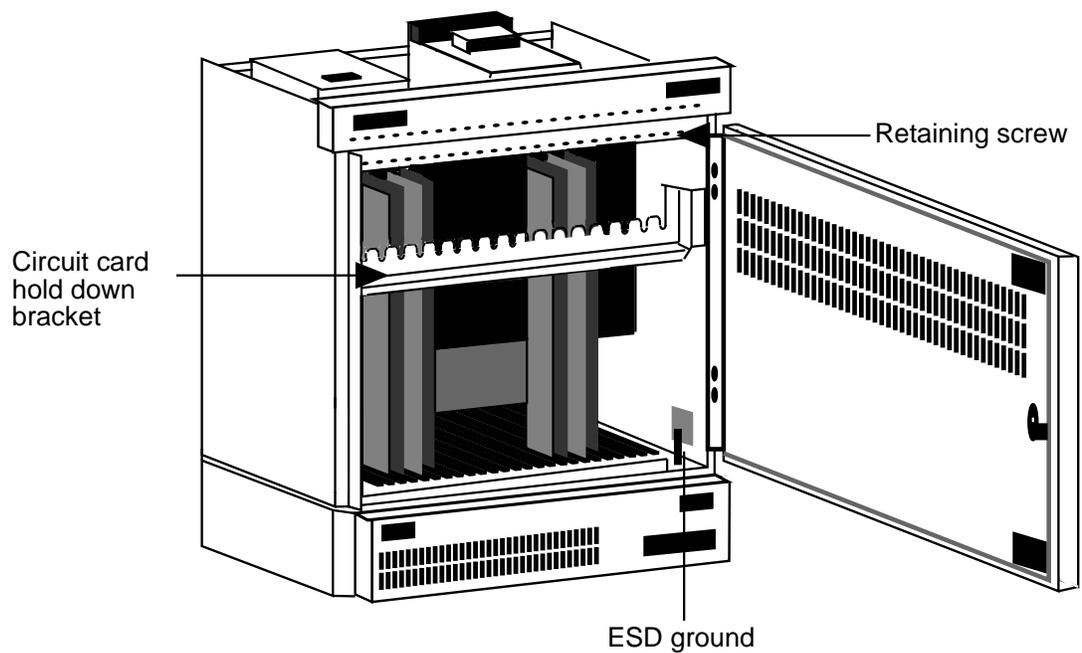

Figure 5-1. MAP/100C with Front Door Open
3. Use the indentations around the slide latches to swing the door open to the right. Open the door as wide as its hinges will allow. See Figure 5-1.